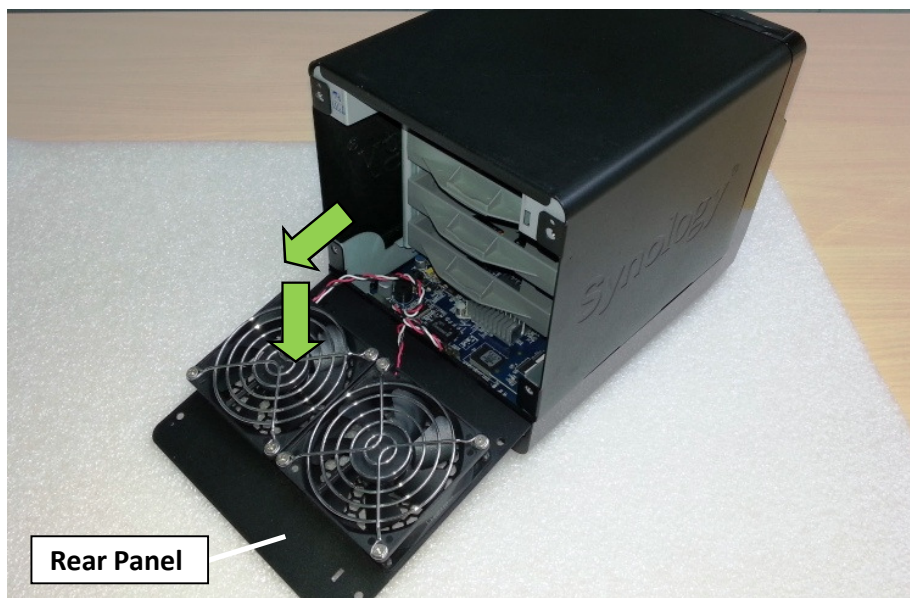

Fig. 45
3.1.2 Flip down the rear panel to open it. (Fig. 45)